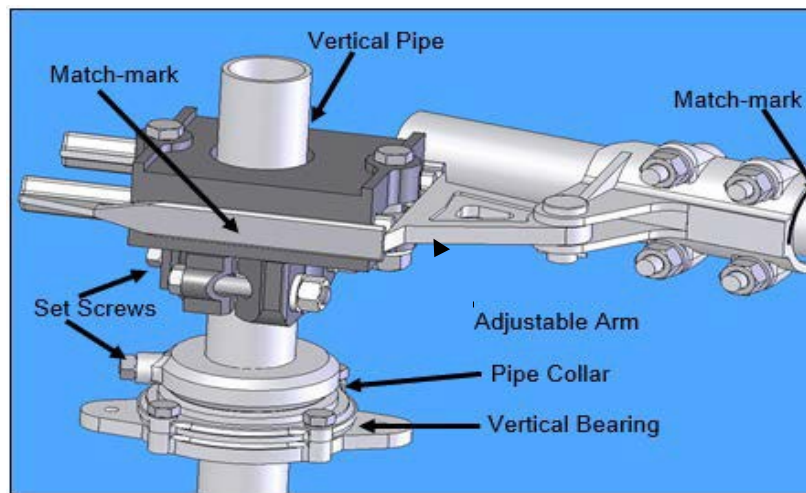

Figure 12: Typical Operating Arrangement
- 5.6 Refer to the Operating Mechanism drawing and install all mounting brackets, bearings, bushings, pipe clevises, switch operating device, adjustable arm, reach rod, and other necessary components. Refer to **Figure 12**. Do not connect the interphase pipe at this time.
- 6.1. The operating mechanism is intended to fully open and fully close the disconnect switch by rotating the vertical operating pipe  $180^{\circ} \pm$  using an operator (manual or motor). The interphase pipe controls the individual operation of each switch pole, using a push/pull control. The reach rod translates the motion of the vertical operating pipe to the interphase linkage. The adjustable arm (**Figure 12**) controls the total amount of switch operation available.